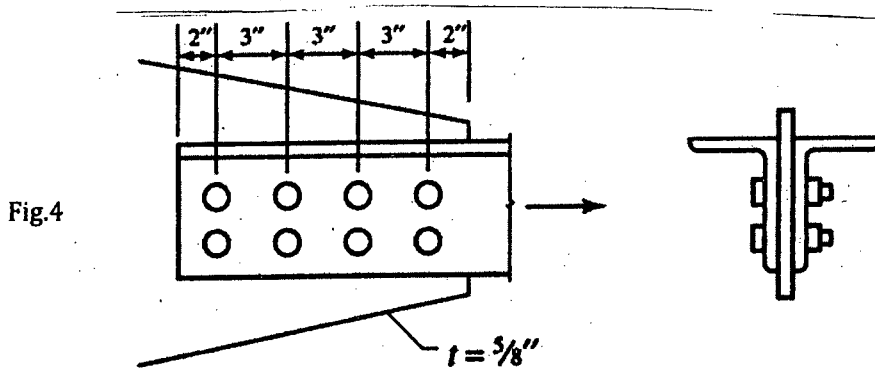

Fig.4
6. (a) A residential building is to be designed using a flat plate floor system. The interior columns are  $24" \times 24"$  and they are spaced  $22 \text{ ft c/c}$  in one direction and  $24 \text{ ft c/c}$  in other direction. Design the interior panel ( $22' \times 24'$ ) and show the reinforcements in long direction only with neat sketch. Assume slab thickness  $8"$ . Specified live load =  $40 \text{ psf}$ ; Floor finish and partition wall load =  $60 \text{ psf}$  in addition to the self weight of floor slab.  $f'_c = 35,00 \text{ psi}$  and  $f_y = 60,000 \text{ psi}$ . (25)
- (b) What are the limitations of Direct Design method for the analysis of two way slab? (10)
7. (a) The plan of a pile cap with 12 nos. 20" dia coast-in-situ piles is shown in Fig. 4. The piles are provided for a RC column 30" × 30" in section carrying DL = 950 kip and LL = 550 kip (working). Individual pile capacity is adequate. Design the pile cap showing all the reinforcements with necessary details. Given:  $f'_c = 4,000$  psi and  $f_y = 60,000$  psi. (17)
- (b) Two interior columns of a high rise building are spaced 15 ft apart and each carries DL = 400 kip and LL = 300 kip. The columns are 21" × 21" in cross-section. The columns will be supported on a rectangular combined footing with a long-side dimension twice that of the short side. The allowable soil bearing pressure is 5000 psf. The bottom of the footing will be 6 ft below grade. Design the footing and show the reinforcement with neat sketches.  $f'_c = 3$  ksi and  $f_y = 60$  ksi. (18)
8. (a) A flat plate floor has thickness  $h = 8"$  and is supported by 18" × 18" columns spaced 20 ft on centres each way. The floor will carry a DL = 180 psf including its self weight and a live load of 100 psf. Check the adequacy of the slab in resisting punching shear and provide shear reinforcement, if needed. Consider  $d = 6.5"$  ;  $f'_c = 3500$  psi and  $f_y = 60,000$  psi. (17)
- (b) Design a square footing for an interior column that carries total working DL = 600 kip and LL = 400 kip. The column is 25" × 25" in cross-section. Allowable bearing capacity of soil is 4200 psf. The bottom of the footing is 6 ft below grade. Show the reinforcements in plan and sections with neat sketches (18)
(c) A double-angle shape,  $2L6 \times 6 \times \frac{5}{8}$  is connected to a  $\frac{5}{8}$ -inch thick gusset plate as shown in Fig. 4. Determine the maximum total service tension load (ASD) that can be applied on the angles based on bolt limit states. The bolts are  $\frac{7}{8}$ -inch-diameter, A325 bearing type bolts ( $F_{by} = 90$  ksi,  $F_{bu} = 120$  ksi). A572 Grade 50 steel ( $F_y = 50$  ksi,  $F_u = 70$  ksi) is used for the angle, and A36 steel ( $F_y = 36$  ksi,  $F_u = 58$  ksi) is used for the gusset plate.